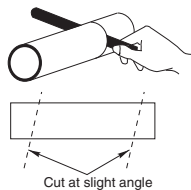

Fig. 3-36
- Measure the thickness of the wall from the inside edge to the outside edge and cut PVC pipe at a slight angle 6 mm shorter than the thickness of the wall. (Fig. 3-36)